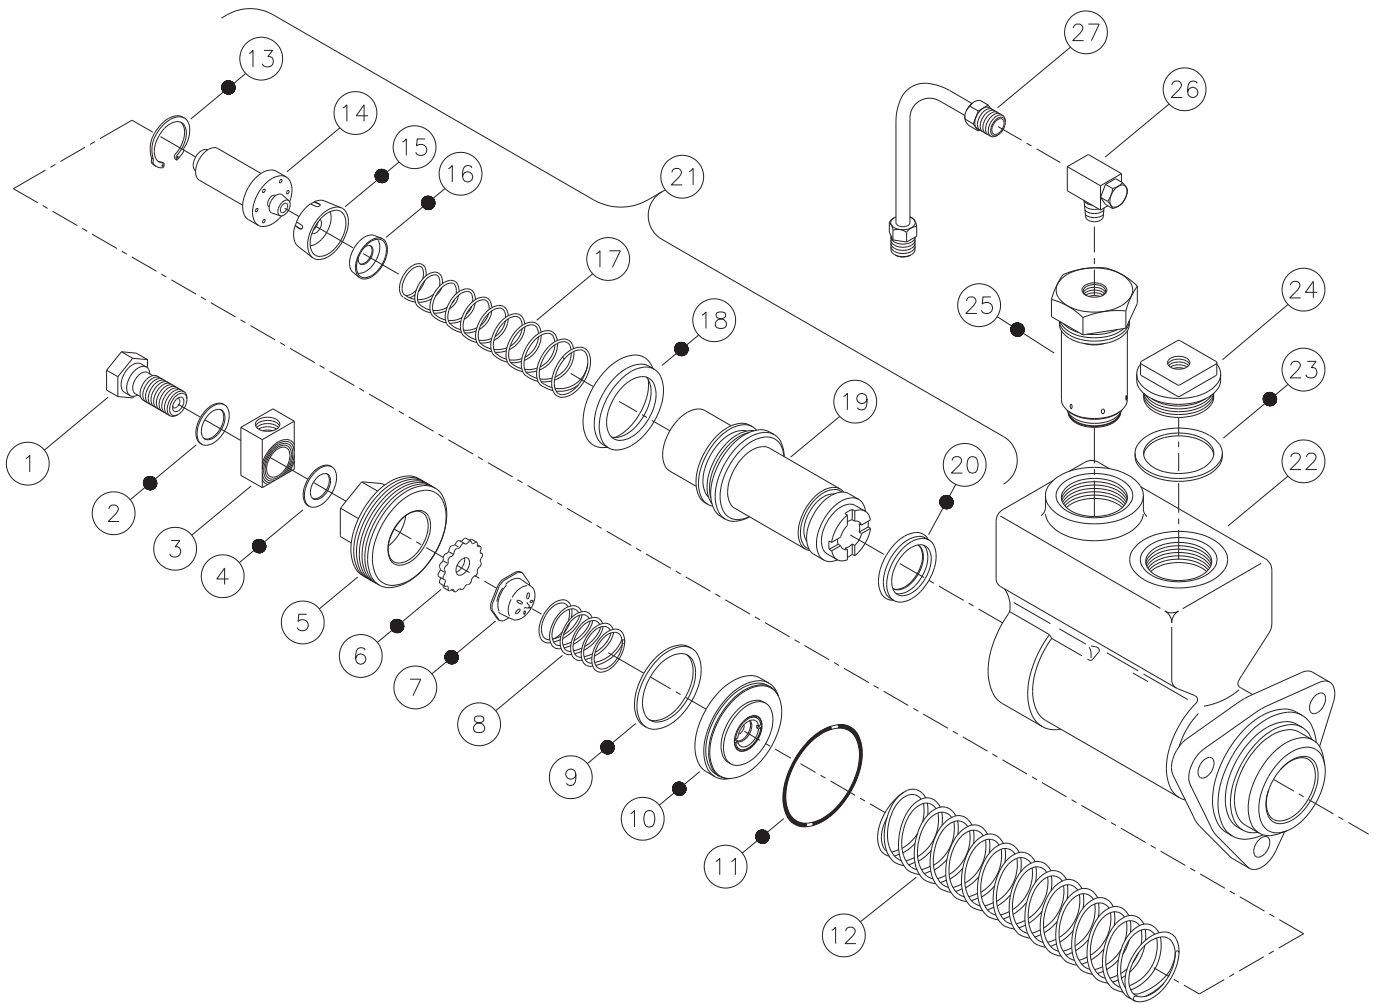

FIGURE 4
2. Install new retainer (16) on end of spring (17). Install spring, large end first, into piston (19). **NOTE: Retainer (16) removed from your cylinder may appear different than retainer (16) in Figure 4, replace with new retainer provided in repair kit.**
3. Install new cup (15) on piston (14).
4. Insert piston (14) into piston (19) with cup (15) against retainer (16). Depress piston (14) and install new retaining ring (13).
5. Install new cup (18) and new cup (20) on piston (19). Note direction of cups.
6. Install piston assembly (21) into housing (22). Note direction of piston assembly.
7. Install spring (12) over piston assembly (21).
8. Install new o-ring (11) in housing (22) and new seal (9) on new retainer assembly (10). Install new retainer assembly into housing. Note direction of retainer assembly.
9. Assemble new seat (6), new check valve (7) and spring (8) between retainer assembly (10) and end plug (5).
10. Lubricate the threads on end plug (5) and install into housing (22). Torque end plug (5) with a large box end wrench to approximately 67.8-108.5 N·m (50-80 lb·ft).
11. Insert new relief valve assembly (25) into housing (22) and torque 88.1-101.7 N·m (65-75 lb·ft).
12. Install fitting (26) into new relief valve assembly (25) and tighten.